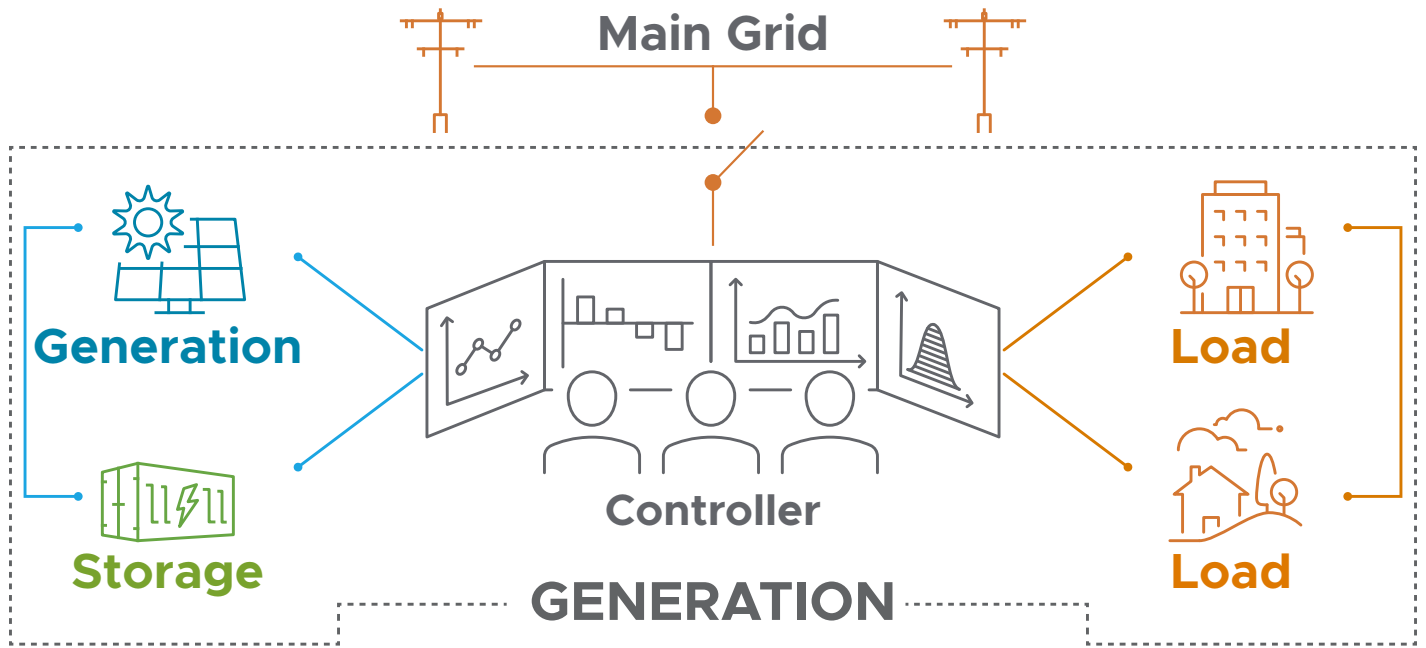

Figure 2. Microgrid components (dashed box) and switch connection to the main grid (top).
When the microgrid is disconnected from the main grid, the local generators and consumers operate as an island, with the controller balancing the demand of the loads (consumers) with electricity from the generators (rooftop, on-site, or nearby) and the energy storage (batteries), as seen in Figure 2. Operating in **islanded mode provides those connected via a microgrid with electricity access even during a power outage on the main grid**. Outages can occur due to unreliable grid conditions, maintenance, extreme weather, or public safety power shutoff events.
Microgrids can be relatively small, containing just one house, rooftop generation, and a battery. Microgrids can also be scaled up to power a community of multiple homes and community centers using a combination of generation sources and energy storage devices, all connected with the required electrical components, such as power converters to convert direct current (DC) to alternating current (AC) and protection relays to sense disturbances in the main grid to signal the controller to disconnect or reconnect the microgrid. The possible components of a microgrid are pictured in Figure 2.